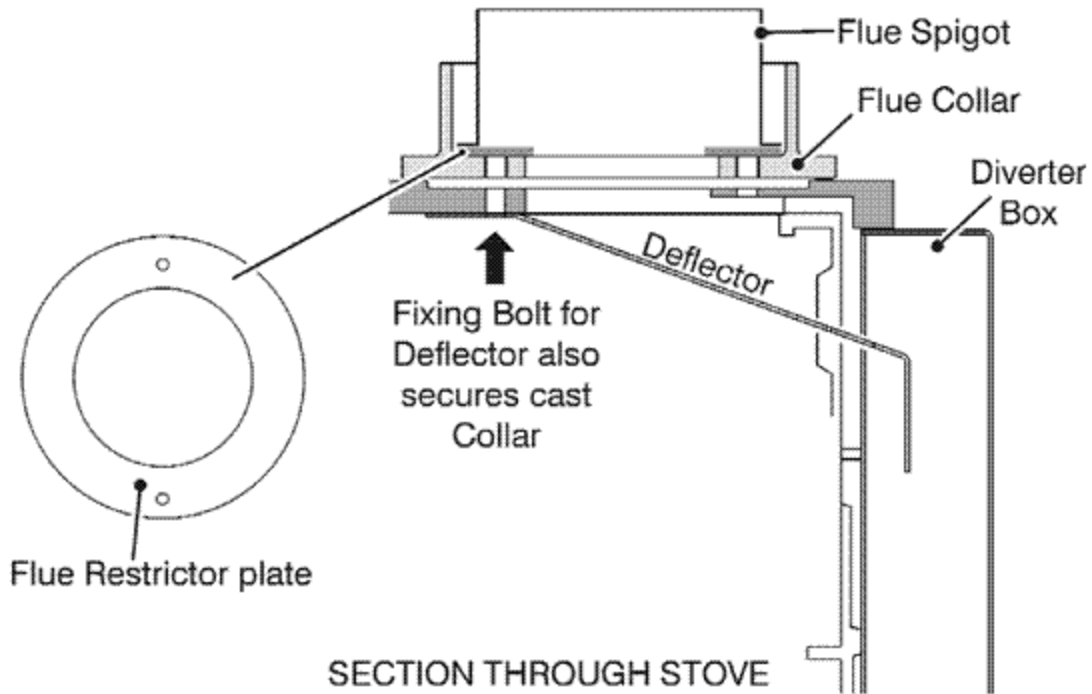

Figure 2.
- These should be located to the stove as in figure 2. Do not bolt in place until fitting the deflector. The flue restrictor is for use where the flue draught is excessive. The flue spigot is screwed to the cast flue collar and clamps the flue restrictor plate in place (See figure 2). There may however, be certain circumstances where fitting the restrictor causes the fire to fail the spillage test. In such cases the restrictor will have to be removed. After removal conduct the spillage check again.